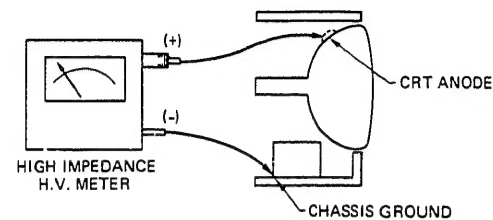

Fig. 1 Connection of H.V. Meter
2. Connect a high voltage voltmeter between the CRT anode and the chassis ground (K3) as shown in Fig. 1.